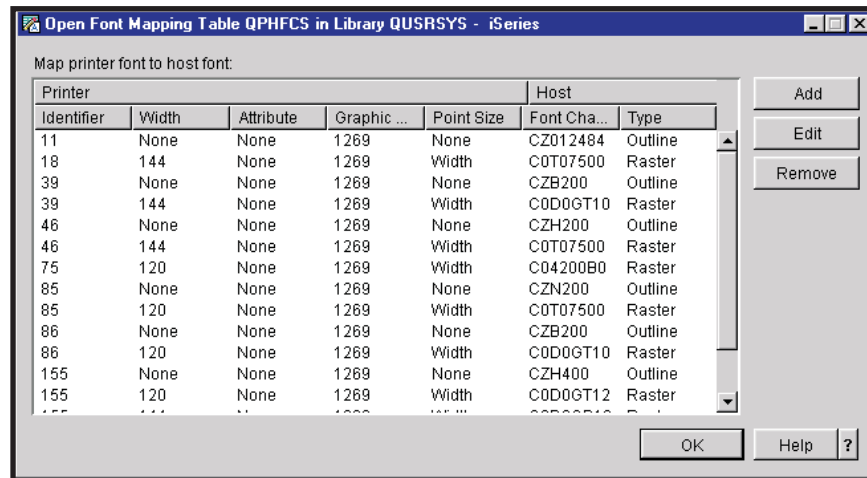

Figure 199. Open Font Mapping Table Window
6. Double-click the table you want to view. Figure 199 shows the user-defined HPFCS table.